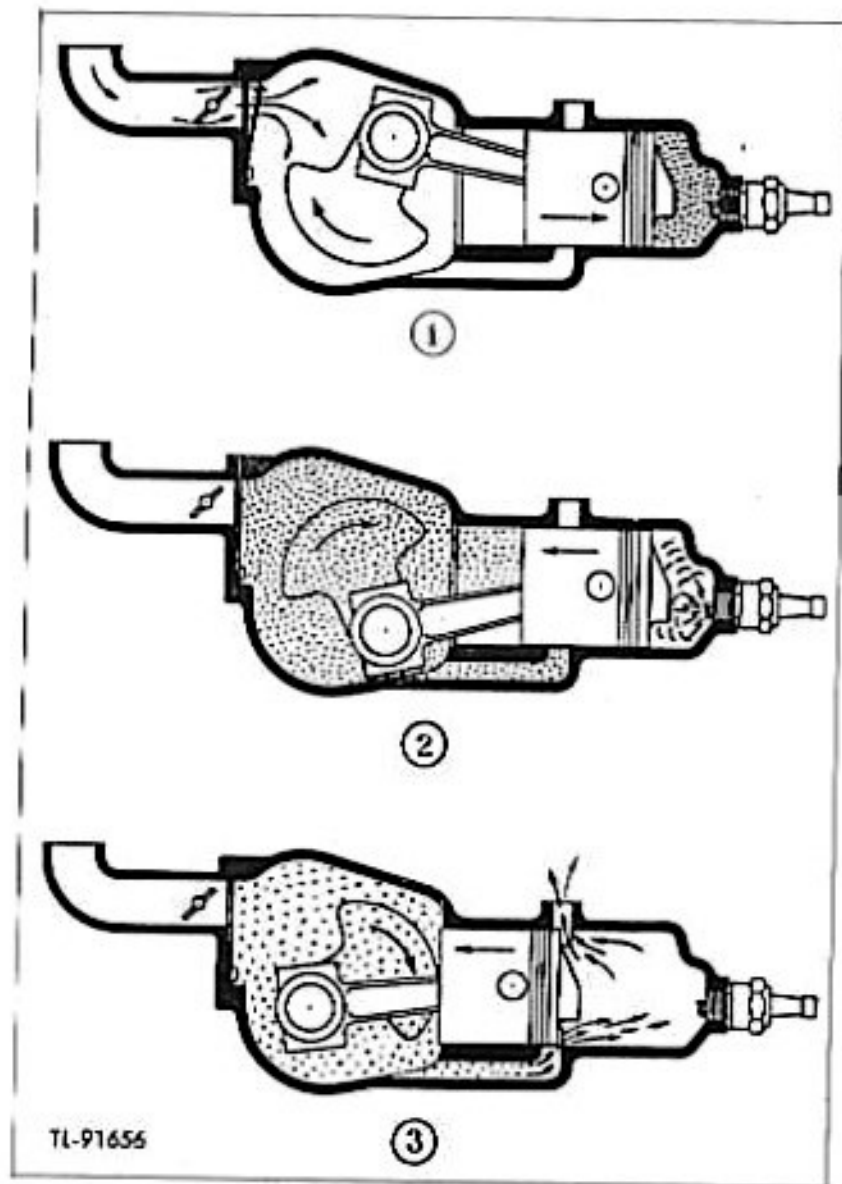

Fig. 7—Principle of Two Cycle Engine
a. As shown in figure 7 ①, the piston, on its up-stroke (compression), draws a charge of fuel into the crankcase through a reed valve attached to the rear of the carburetor. At the same time, a charge previously drawn into the crankcase and by-passed into the combustion chamber is compressed.
b. The charge in the combustion chamber is ignited when the piston is one-eighth inch from top dead center (fig. 7 ②). The expansion of the burning gases forces the piston down on its power stroke. The descending piston compresses the charge previously drawn into the crankcase.
c. Near the bottom of its downward (power) stroke (fig. 7 ③), the piston uncovers the exhaust ports, releasing the exhaust gases. At almost the same moment, the piston uncovers the intake ports, permitting the fuel charge compressed in the crankcase to rush through into the combustion chamber.